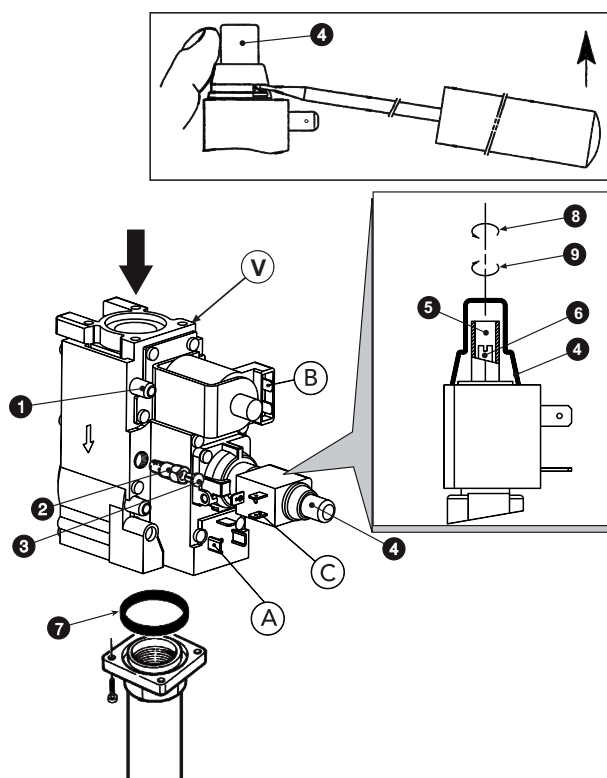

fig. 4 - Gas conversion
Pressure adjustment operations must be carried out with the boiler working, using the pressure regulator on the 2-stage gas valves (see fig. 4)
3. Remove the protection cap of the pressure regulator 4 of fig. 4.
1. Turn the control thermostat knob slowly clockwise to the 1st click; the gas valve will thus be supplied only on connections A and B (see fig. 4).
2. Turn the screw 6 of fig. 4, checking that the pressure matches the values given in the technical data table in sec. 5.3.
1. Turn the control thermostat knob to maximum; the gas valve will now be supplied only on connections A, B and C (see fig. 4).
2. Turn the screw 5 of fig. 4, checking that the pressure matches the values given in the technical data table in sec. 5.3.
2. Remove the small cap 3 (fig. 4) from the gas valve, screw the ignition "STEP" regulator 2 (contained in the conversion kit) onto the valve and refit the cap 3 on the regulator.
Carry out the same operations described above, making sure to remove the ignition "STEP" regulator 2 of fig. 4 of the gas valve; the cap 3 of fig. 4 must be fitted directly on the valve.